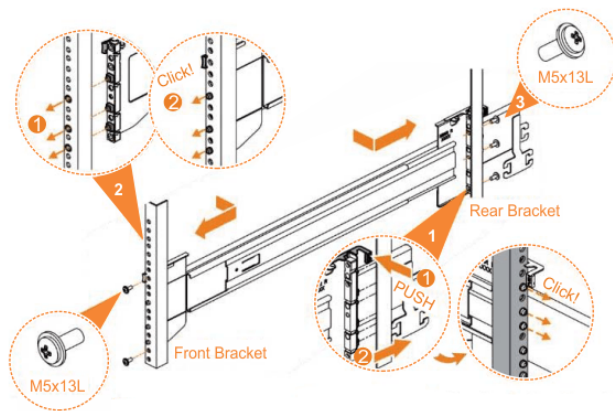

Figure 42. Installing the rail assembly to the rack frame
6. Use the M5 screws to install the outer rail member and bracket assembly to the rack, as shown in Figure 42 on page 83.